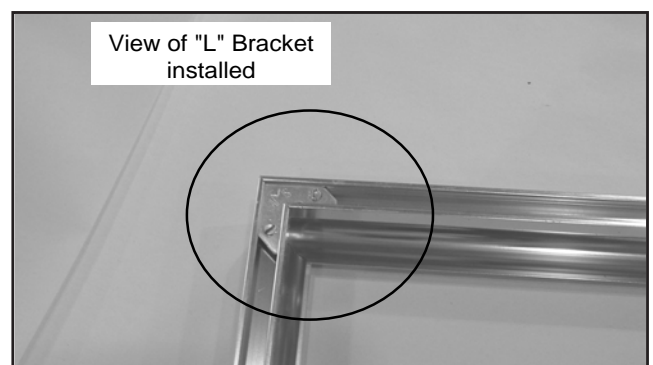

Figure 34.3
2. Assemble the trim with the (2) corner brackets provided. **Figure 34.3.**